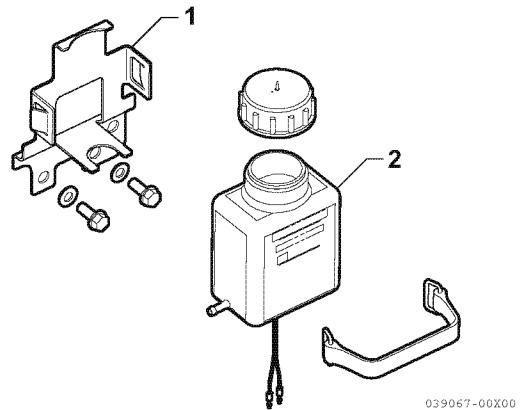

Figure 9
1. Remove the oil reservoir from the bracket (1, **Figure 9**).
3. Install the oil reservoir (2, **Figure 9**) in the bracket.